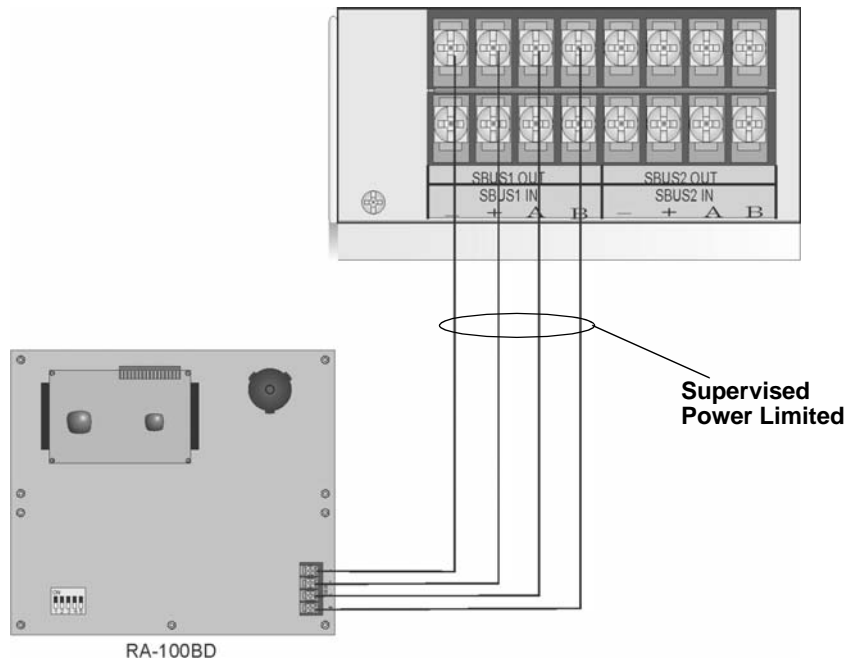

Figure 4-30 Model RA-100 Connection to the Panel
5. Connect wires from the RA-100 to the SBUS connectors on the FACP. (See Figure 4-30).
Connect the RA-100 to the panel as shown in Figure 4-30.